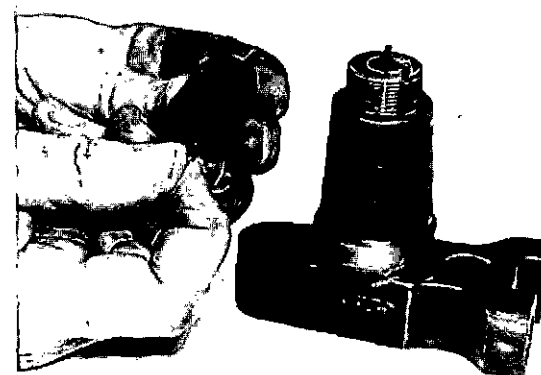

Fig. 3-6, (F60190). Remove the check ball from the barrel
7. Remove the check ball from the barrel, Fig. 3-6.